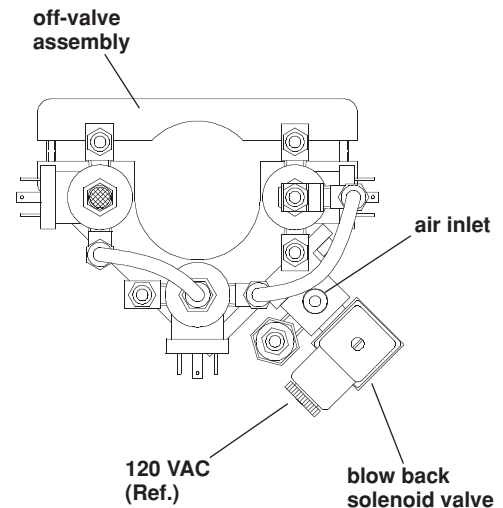

Figure 4-9 Coolant Purging Setup
2. At off-valve assembly (Fig. 4-9) connect 1/4-inch air hose to air inlet.